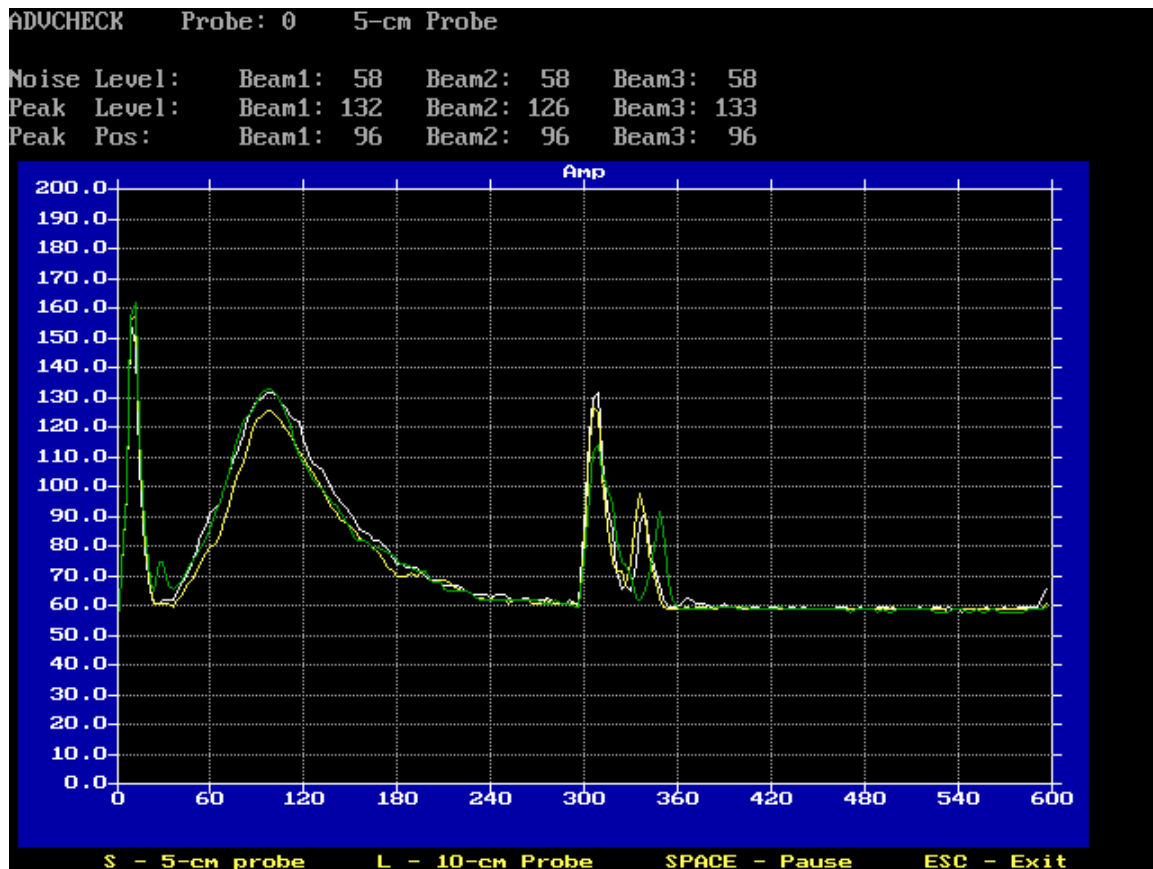

Figure 5 – ADFCHECK Display
The ADV sends a pulse of sound, and **ADFCHECK** plots the return signal strength for each of the three receivers as a function of time following the transmit pulse. The output plot shows several features: increased signal strength in a bell-shaped curve corresponding to the sampling volume, a sharp spike from the boundary reflection if within range, and signal leveling to the electronic noise level. The display is updated every 1-2 seconds and each plot is the average of a number of samples. Figure 5 shows an example of this output using data from a 10-MHz ADV with a 5-cm distance to the sampling volume.
Several important features can be identified in Figure 5. Each of these is described below, starting at the left side of the plot.
- When there is sufficient scattering material in the water, there will be an increase in signal strength in a bell shaped curve that corresponds to the transmit pulse passing through the focal point of the receivers. The peak of this curve corresponds to the center of the sampling volume. The exact location of the center of the sampling volume depends on the exact probe geometry. For the 10-MHz ADV, the peak is typically located at 90-105 counts for 5-cm probes, and at 175-195 counts for 10-cm probes. For 5-MHz ADV Ocean probes, the peak is typically located at 140-160 counts. All three receivers should see the peak in the same location, although there will be variation in the height and shape of the curve. It is possible to calculate the signal to noise ratio (SNR) from the height of this curve and the noise level (see below). For the example in Figure 5, the mean height of the curve is about 130 counts and the noise level is about 58 counts. SNR is then calculated by $(130-58)*0.43$, or about 31 dB.
- If the ADV is reasonably close to a boundary (bottom, surface, or side), a sharp reflection should be seen in ADFCHECK. The size and shape of this reflection will vary depending on the nature of the boundary, its distance from the ADV, and the acoustic conditions of the water. We can estimate the distance from the probe to the boundary by the location of the front edge of the boundary reflection. In Figure 5, this occurs at about 300 counts or 18 cm from the